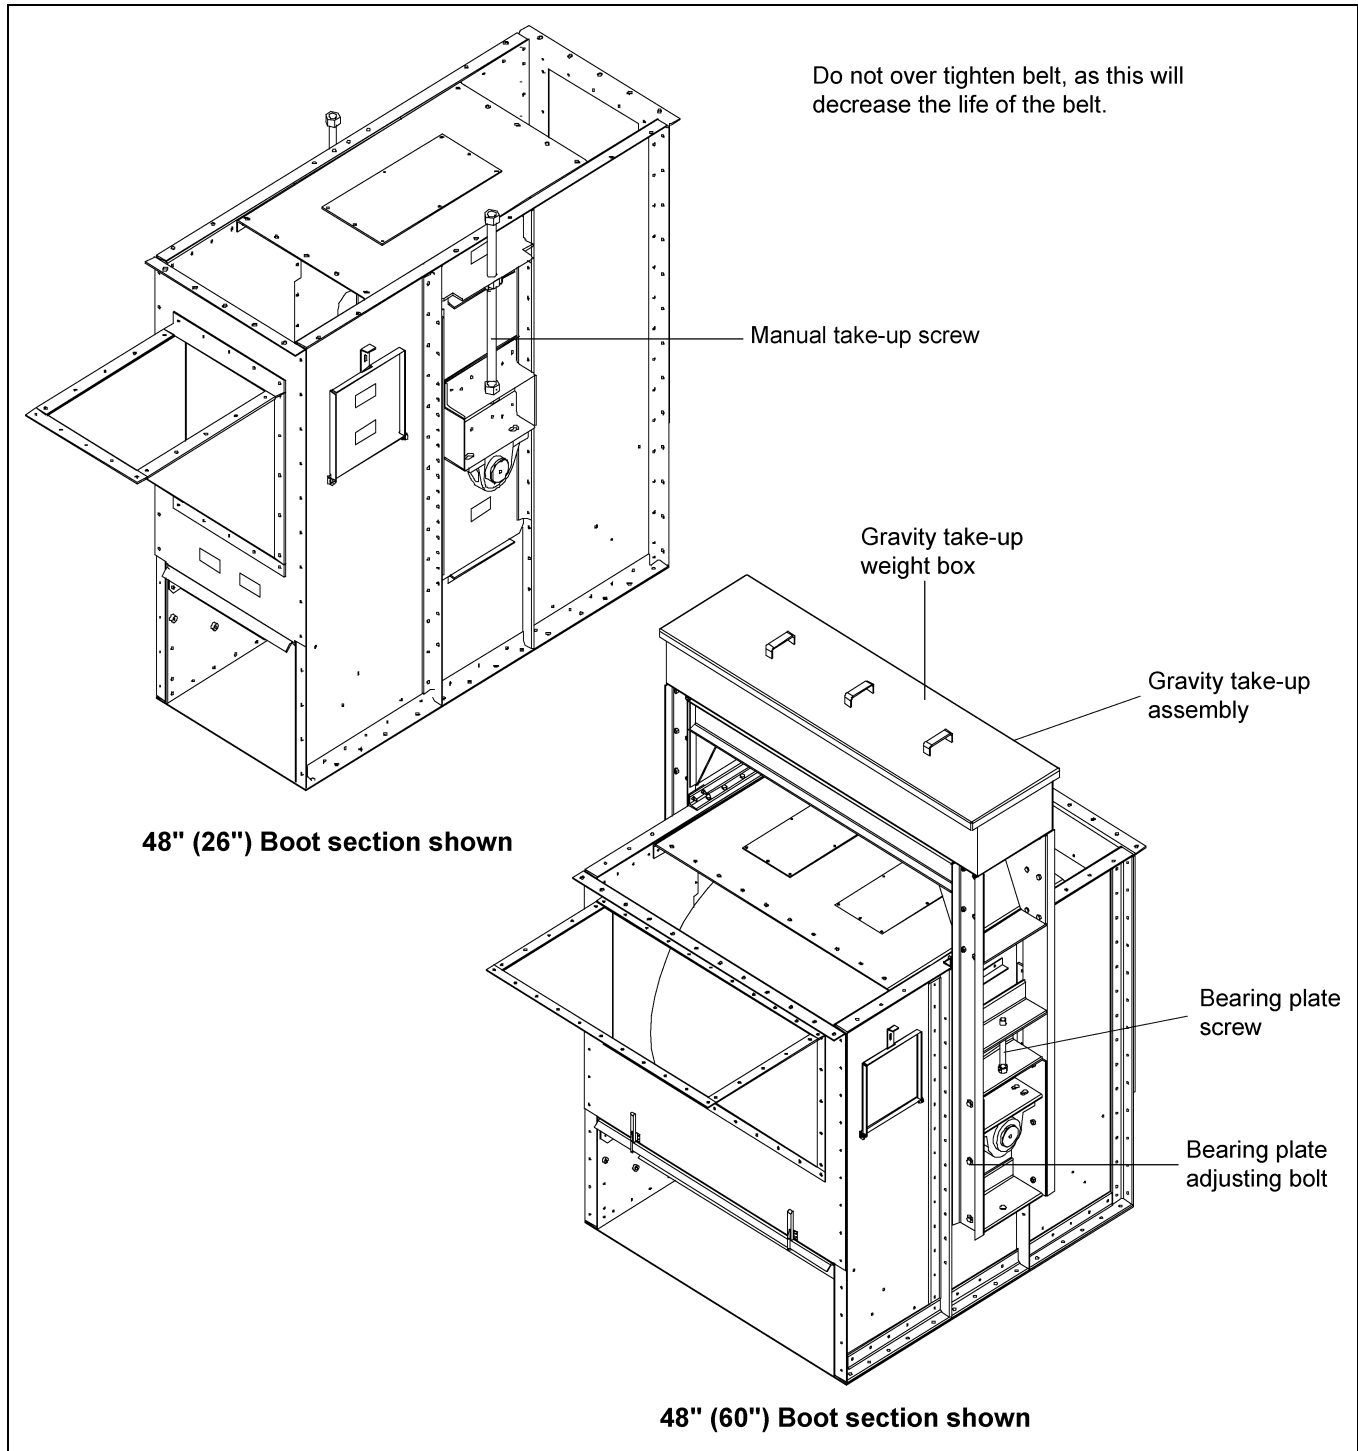

Figure 10B Take-Ups
5. After adjustments have been made, re-tighten bolts and snug the bearing plate adjustment screw lock nuts. (See Figure 10B.)